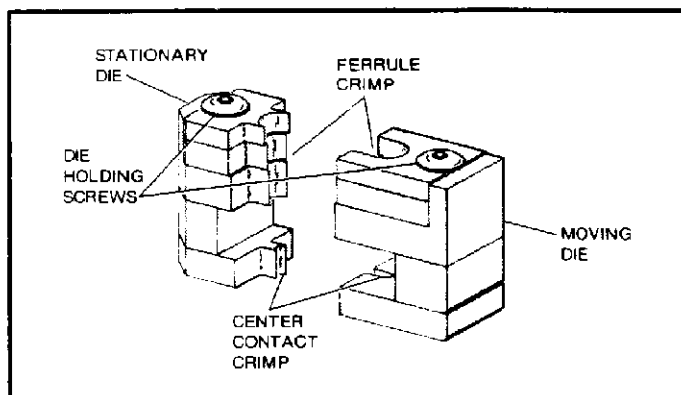

Figure 1
- (b) Each set of dies consists of a moving die and a stationary die. See Figure 1.
- (a) The die assemblies have two sets of crimping dies as shown in Figure 1. One set crimps the center contact; the other set crimps the braid ferrule. Both crimps are made at the same time.